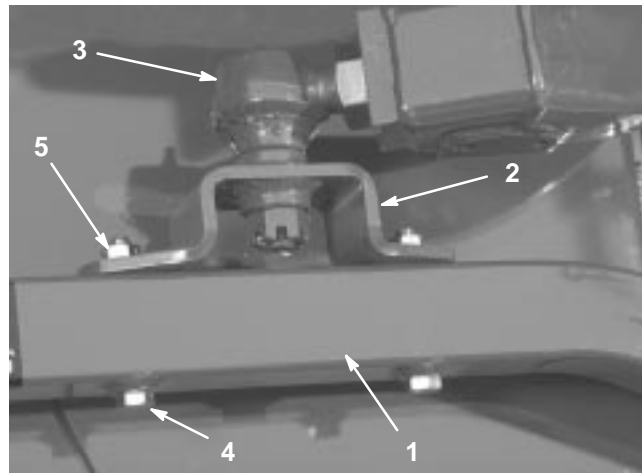

Figure 5
4. Secure the ball joint mounts to each castor arm with 2 capscrews (7/16 x 3 in.) and flange nuts (7/16 in.) (Fig. 5).
5. Tighten the large jam nut securing the ball joint to the lift arm (Fig. 5). When tightening the jam nut, hold the ball joint straight to permit proper oscillation during raising and lowering of the cutting unit.